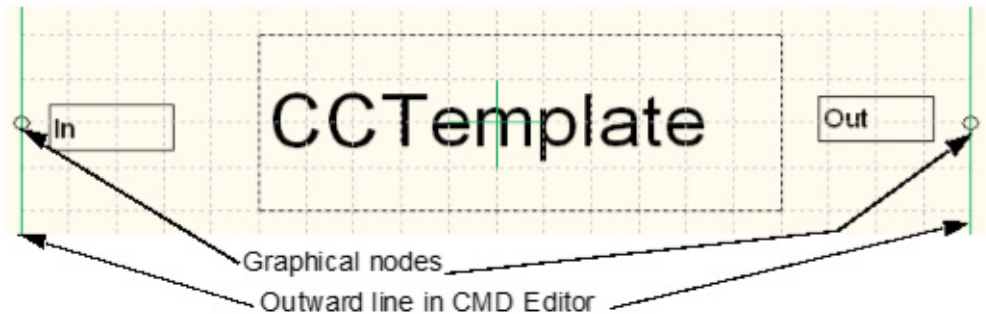
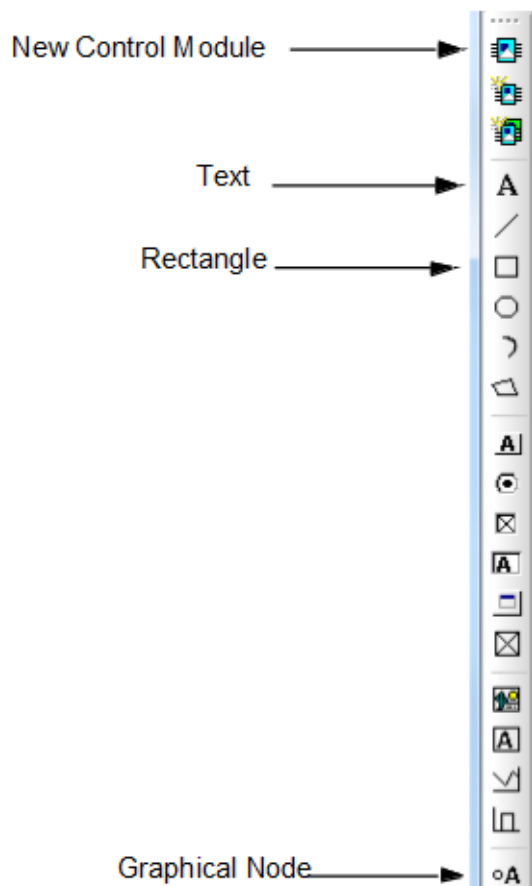

Figure 32. CCTemplate in the CMD Editor
Figure 33. Icon menu in the CMD Editor
After you are done with this subsection your CC Template will contain a name area, two connected graphical nodes in the CMD Editor (Figure 32).
2. Select icon for Rectangle (Figure 33) and mouse-click a rectangle over the outward line (see the outward line in Figure 32).
3. Select icon for Text (Figure 33) and write CCTemplate (Figure 32).
4. Select icon for Graphical Node (Figure 33) and add two nodes on both sides of your Text area (see exact location in Figure 32). Type in parameter **In** and **Out** in the rectangle.
5. Close the CMD Editor when done. The CMD Editor should look like Figure 32.
3. Open the CMD Editor in the Application and select the icon for New Control Module (see Figure 33).